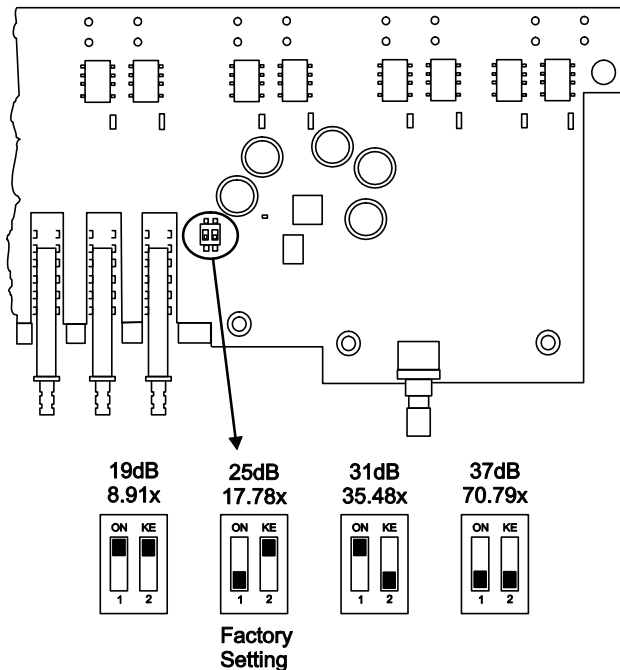

Figure 3: Adjusting the Gain DIP-Switches
3. Using a small screwdriver or pointed object, slide the DIP-switches to set the desired gain (see Figure 3).